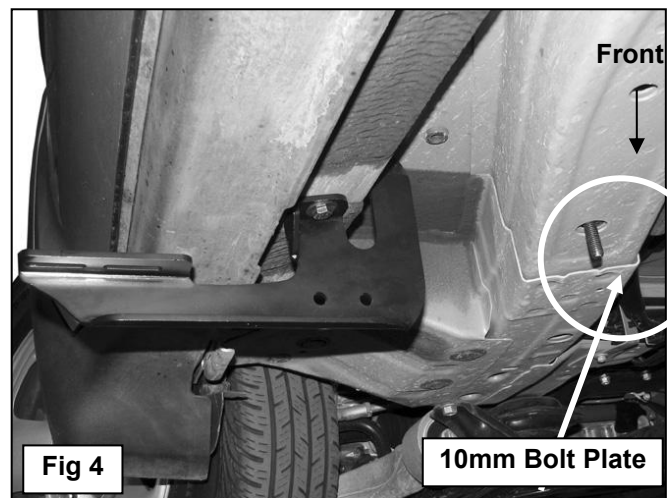

Fig 4
4. Select (1) 10mm Bolt Plate, **(Figures 3)**. Insert the Bolt Plate into the factory hole in the bottom of the frame channel, **(Figures 4)**. Rotate the Bolt Plate clock-wise 90- degrees or until it stops turning. **NOTE:** To help determine the correct inner mounting hole on the frame to use, hold the Support Bracket up to the back of the Front Bracket with the inner end lined up with the hole in the bottom of the frame channel. **(Figures 5)**